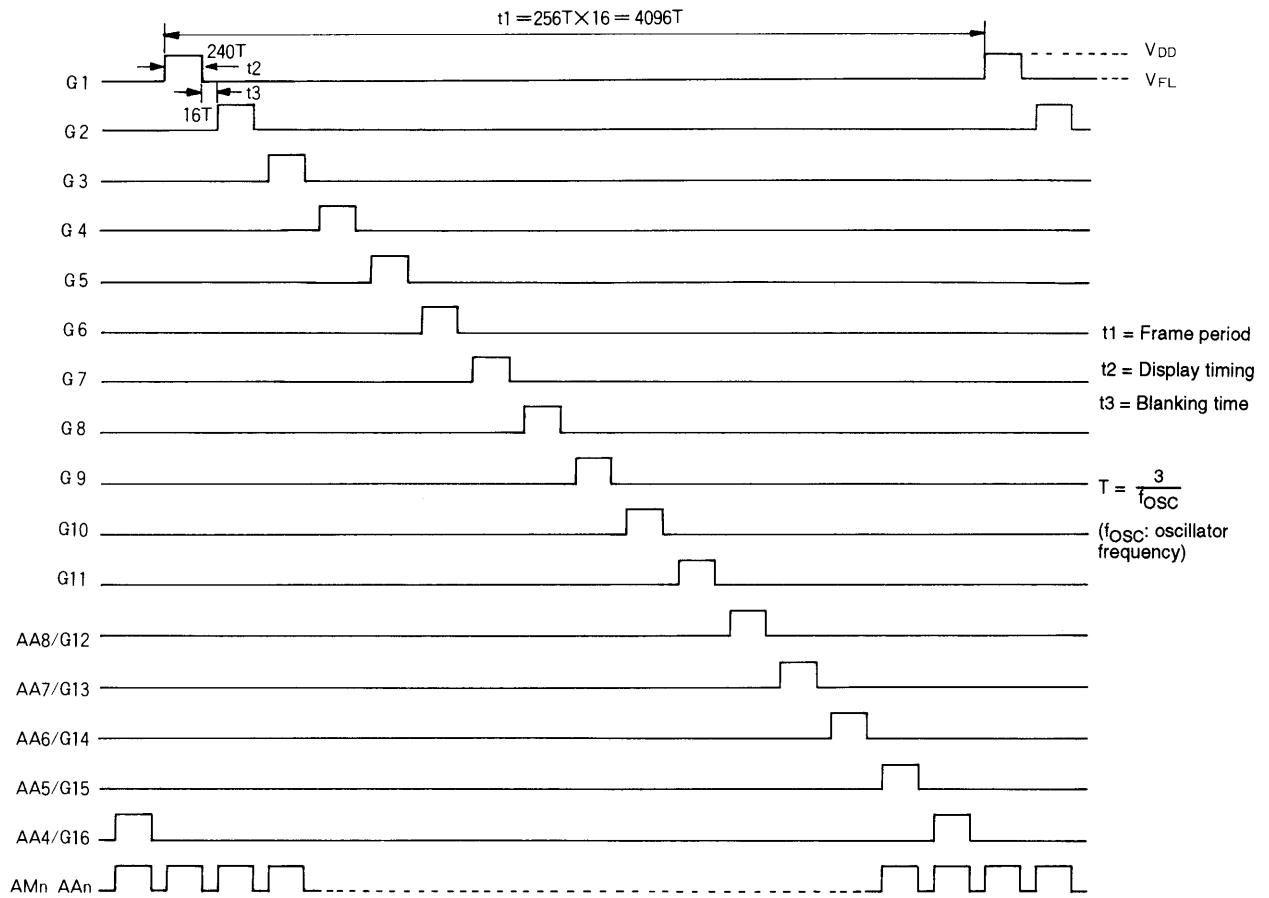

Fig. 3 Grid Timing Chart (16 display digits)
The data in the 8 bits DC0 to DC7 sets the VFD intensity to one of 240 levels. Since the value in the duty cycle register is undefined immediately after power is applied, the display intensity is not determined at that point. Therefore, applications must execute this instruction before turning on the display. Applications can adjust the intensity using the duty cycle register and grid register. The duty cycle register value sets the pulse width (A) and the grid register value sets the period (B). See Figure 3 for the grid timing chart details.